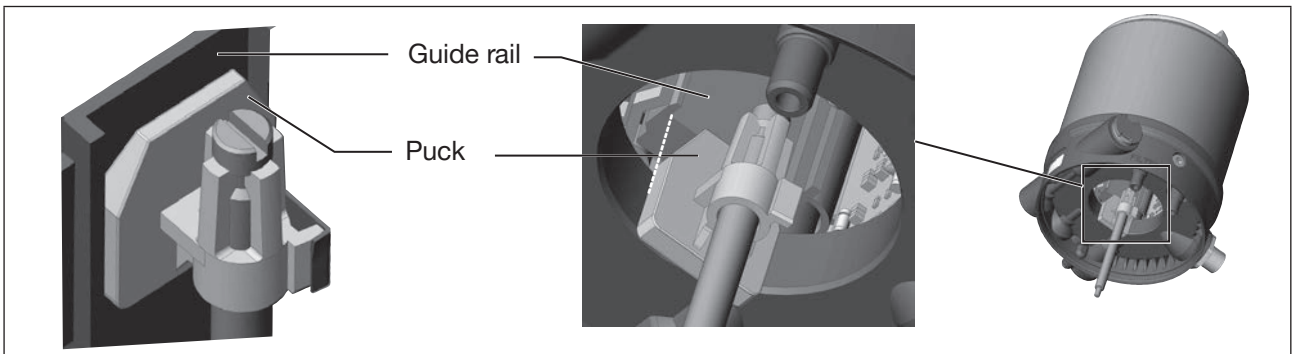

Figure 9: Aligning the puck
1. the puck can be inserted into the guide rail of the control head (see “Figure 9”) and